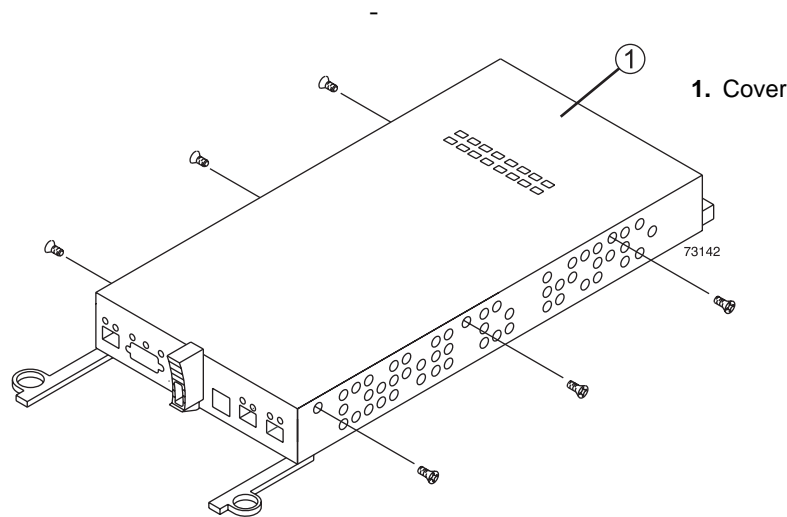

Figure 4-3 Removing the Controller Cover (Upside-Down View)
- a** Turn the controller upside down, remove the screws securing the controller cover, and remove the cover. Figure 4-3 shows the cover and screws.
- c Replace the controller cover, and secure the screws. Figure 4-3 on page 4-4 shows these screws.